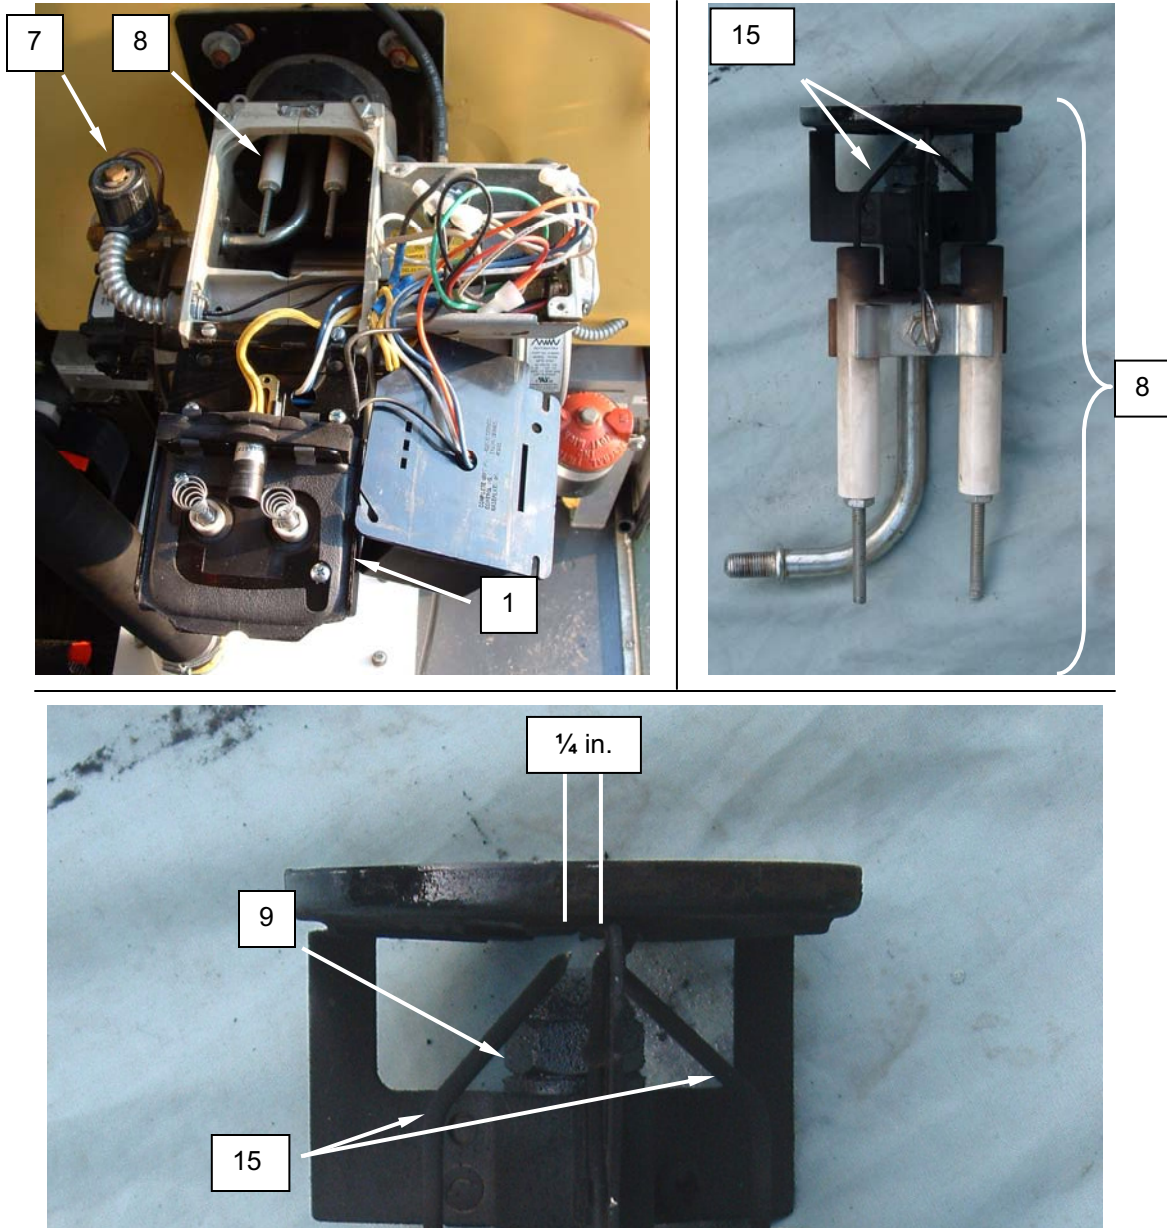

Figure 8. Replace the Burner Electrodes.
2. Remove screws retaining transformer (**Figure 8, Item 6**), and swing transformer up and out of the way.
3. Loosen compression nut retaining the fuel solenoid (**Figure 8, Item 7**) to the nozzle assembly (**Figure 8, Item 8**).
4. Remove the locknut retaining the nozzle assembly (**Figure 8, Item 8**) and remove the nozzle assembly.
5. Loosen the screws retaining the electrodes (**Figure 8, Item 15**) to the nozzle assembly (**Figure 8, Item 8**) and remove the electrodes.
6. Install the replacement electrodes (**Figure 8, Item 15**) onto the nozzle assembly (**Figure 8, Item 8**) and retain in place with screws. Do not tighten.
7. Position the electrodes (**Figure 8, Item 15**) approximately ¼ inch apart, just above the nozzle (**Figure 8, Item 9**).
8. Tighten the screws retaining the electrodes (**Figure 8, Item 15**).
9. Install the nozzle assembly (**Figure 8, Item 8**) into the burner, and retain with locknut.
10. Connect the fuel solenoid (**Figure 8, Item 7**) to the nozzle assembly (**Figure 8, Item 8**), and tighten compression nut.
11. Swing transformer (**Figure 8, Item 6**) back into place and retain with screws.